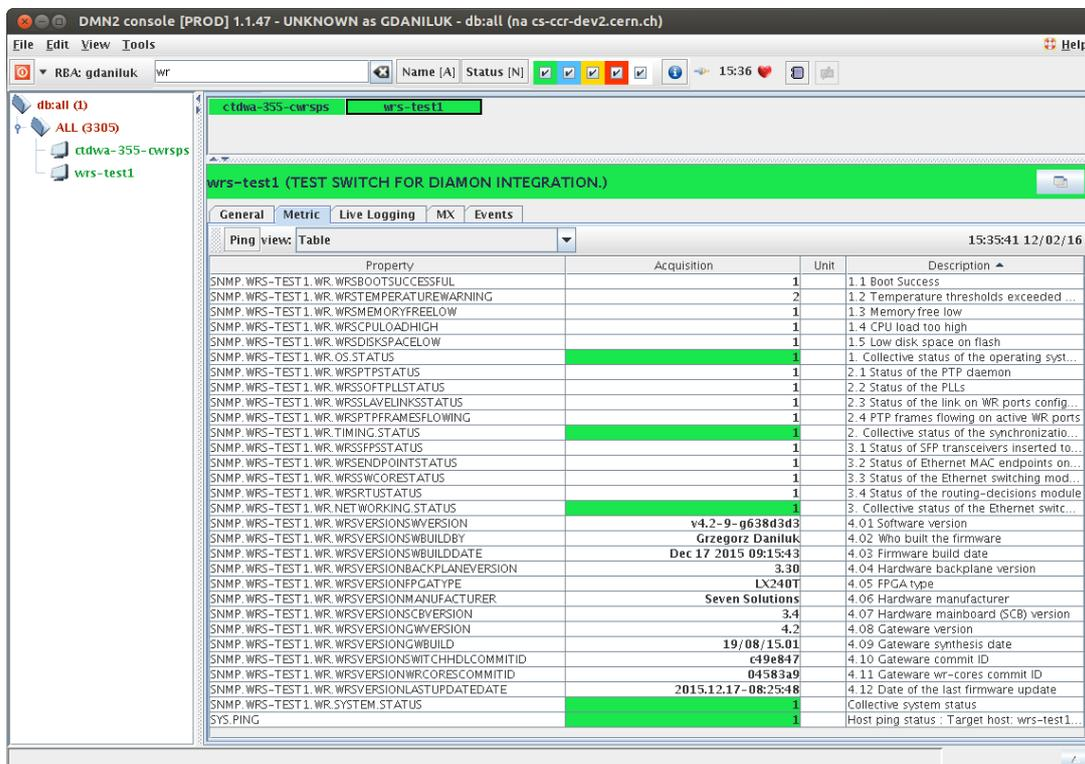

Figure 5: WR Switch does not report any errors
6. Plugging the fiber to the slave port fixes the problem and WR Switch does not report more errors (fig.5).